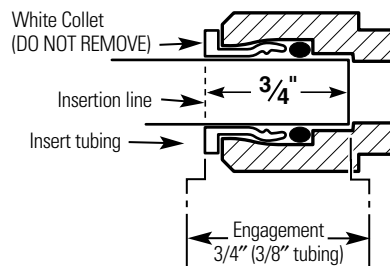

Fig. 11
3. Push the tubing firmly into each fitting on the manifold until the line is flush with the fitting collar. (If the tubing is removed, re-cut the end, measure, mark and re-insert). Tubing must be fully inserted to avoid leaks (Fig. 11). **(To remove tubing, depress and hold white collet; pull tubing out to remove.)**